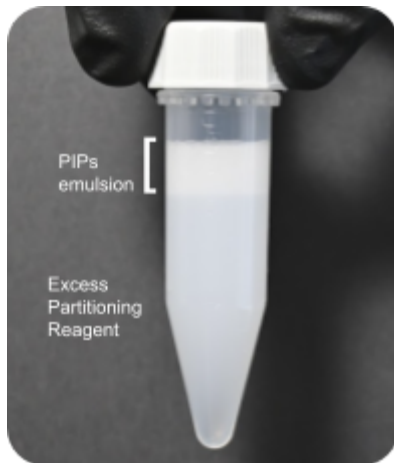

Figure 3. Emulsified PIPs and cells are seen in the top phase while the excess waste Partitioning Reagent is in the bottom phase.
***Workflow Tip:** The cloudy reaction will separate into two phases, PIPs+cells emulsion on top and Partitioning Reagent on the bottom. (Figure 3).*